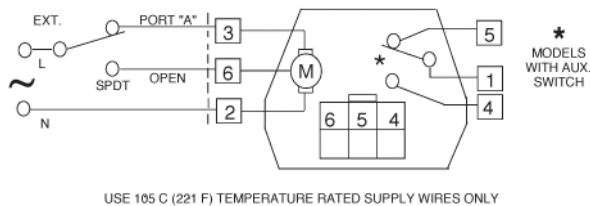

Fig. 6a. Connector Pin Configuration for Molex™ Models for SPDT, Floating Controller (Series 60)
Figures 6A and 6B show single unit wiring connections. Port "A" *open* and *closed* denote valve open and closed positions respectively. On auxiliary switch models, contact makes in between (NC) terminal 1 (orange wire) and (NO) terminal 4 (grey wire) in mid-range of opening cycle. On Molex™ connector models, valve and auxiliary switch voltage must be the same to meet approval requirement. When mixing line voltage and 24 Vac (Safety Extra Low Voltage) application together, the cable version must be used.